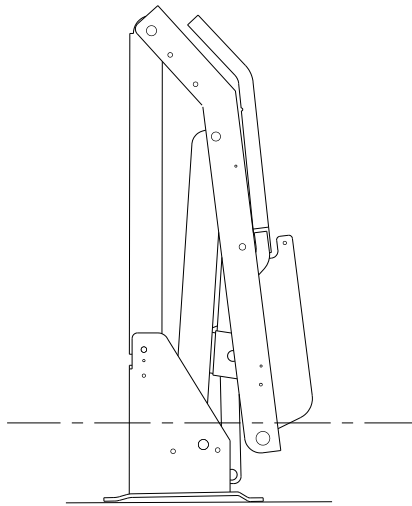

FIGURE 2: HARDWARE LOCATION REFERENCE ON K-1100 SERIES LIFTS
- d. **Refer to Figure 2.** Once through vertical arm, carefully align drill bit as square as possible with vertical arm surface and drill through lower knuckle link.